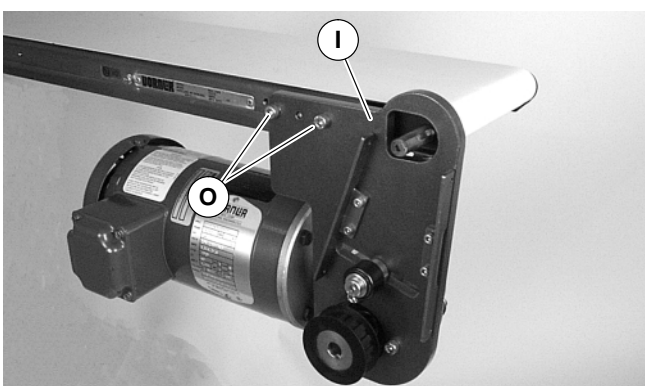

Figure 7
4. Attach mounting assembly (I of Figure 7) with screws (O). Tighten to 80 in-lb (9 Nm).